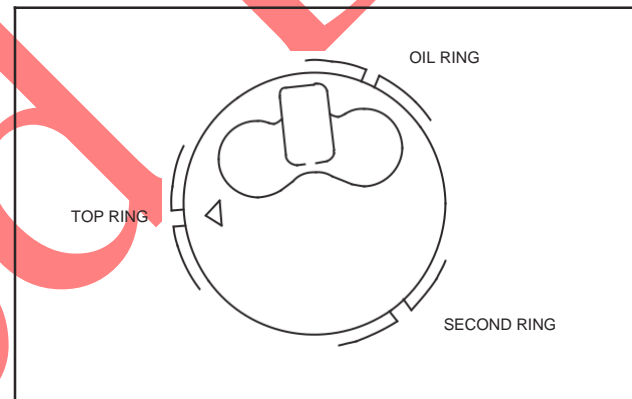

Fig. 12 – Stagger Ring End Gaps
2. Stagger ring end gaps as shown, Fig. 12.